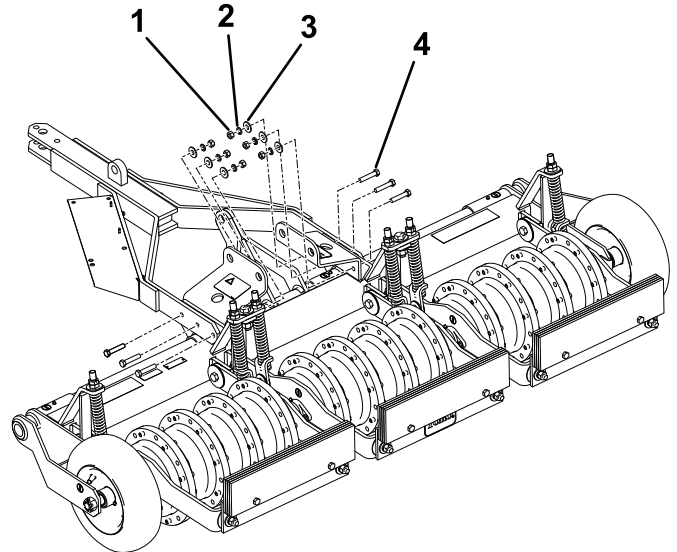

Figure 6
4. Secure the tongue assembly and the brackets with the hardware as shown in Figure 6 and torque the nuts to 54 to 74 N·m (67-83 ft-lb).